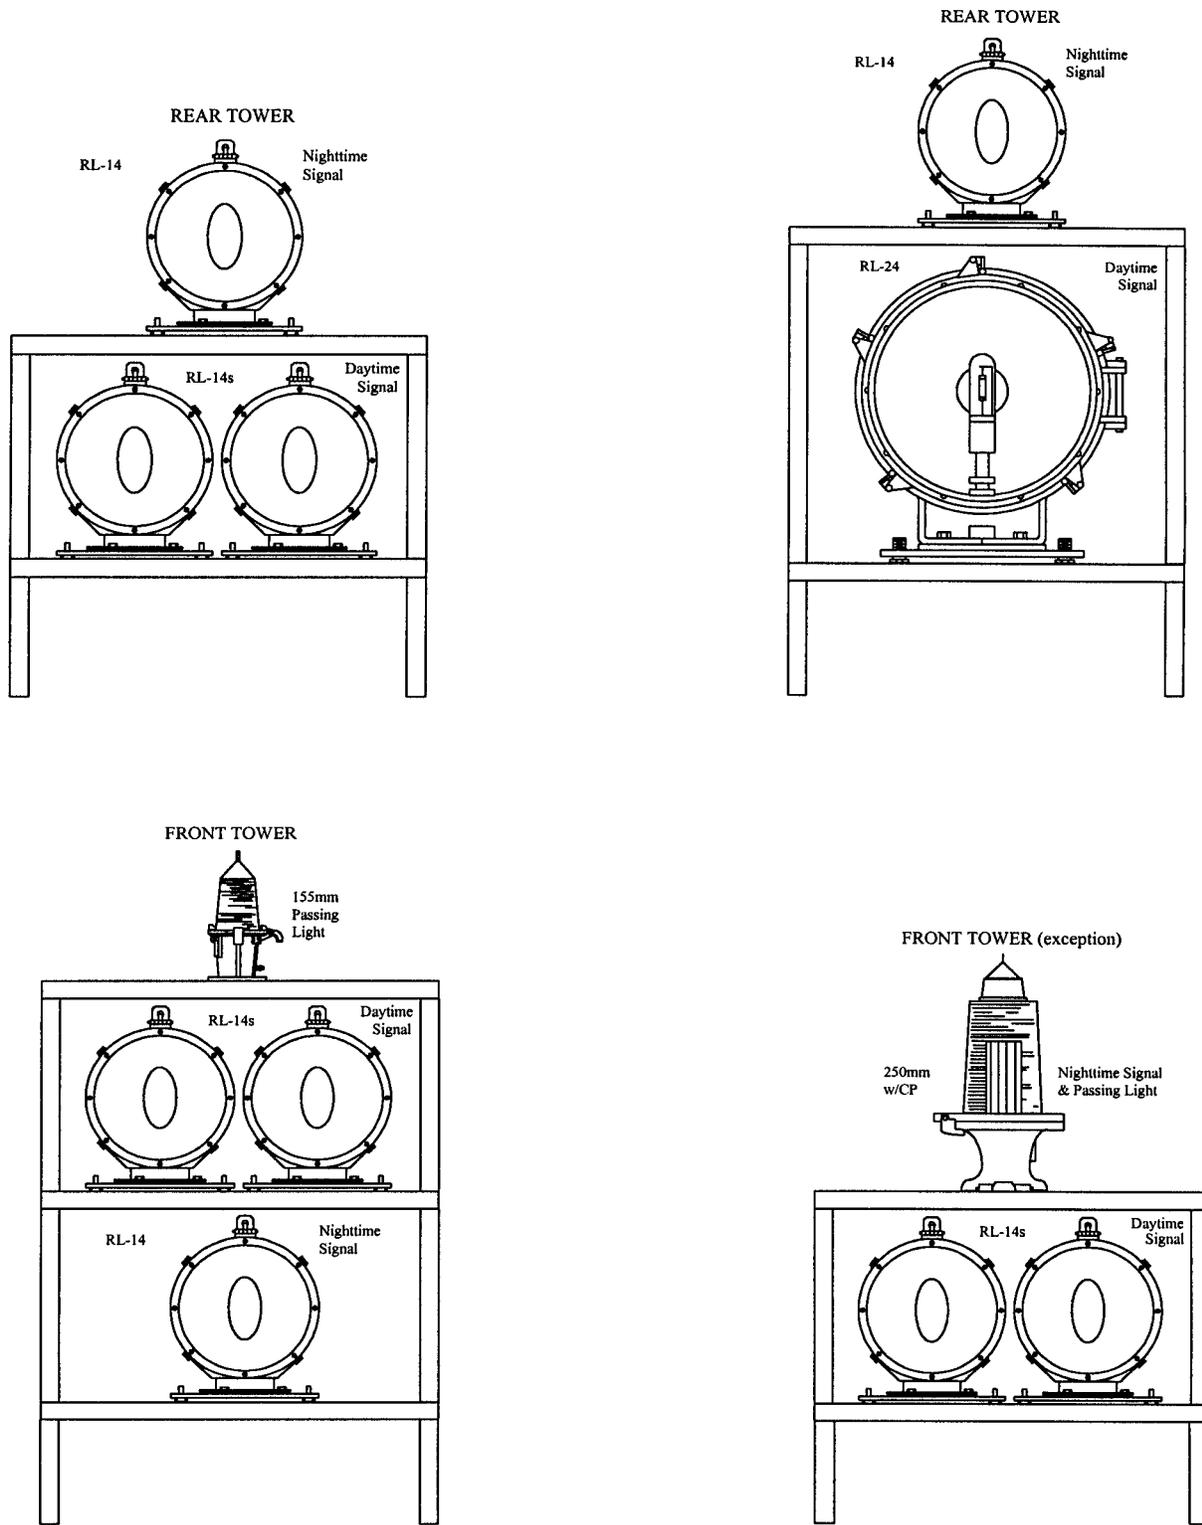

Figure 5-2. Day/Night Range Configurations
- C. Beacon Placement. Proper beacon placement is necessary to ensure that blur will not occur during nighttime hours, and that each light or group of lights will be viewed as a single source. The heights listed in the range design program are the heights from mean high water to the centerline of the optics. For day & night lighted ranges, the lower optic on the front tower and the upper optic on the rear tower shall be the nighttime lights. Vertical separation shall be 3 feet. The only exception to this is if the front tower has an omnidirectional nighttime light which shall be mounted above the daytime lights. Multiple optics for daytime lights shall be installed on a horizontal plane not to exceed three across. Horizontal separation shall be kept to a minimum to be sure the lights are viewed as a point source. Figure 5-2 details some common configurations of day/night optics